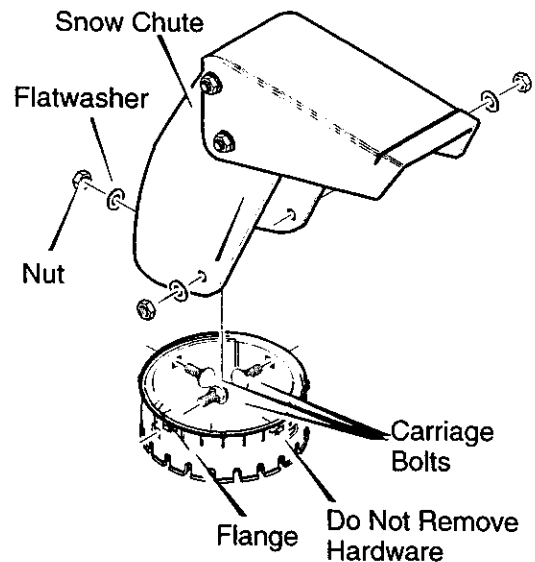

Figure 9
2. Position **snow chute** on inside of snow chute **flange** and align the three holes in the **snow chute** with holes on snow chute **flange**. (See Figure 9)
3. Place three **5/16-18 carriage bolts** from inside of chute as shown in Figure 9. (hardware is found in parts bag).